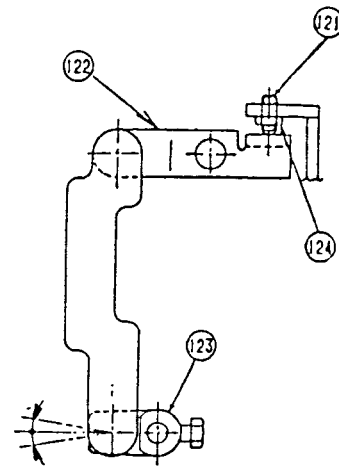

Fig.30
3. To adjust the tension releaser lever. (Figs.30 and 31)